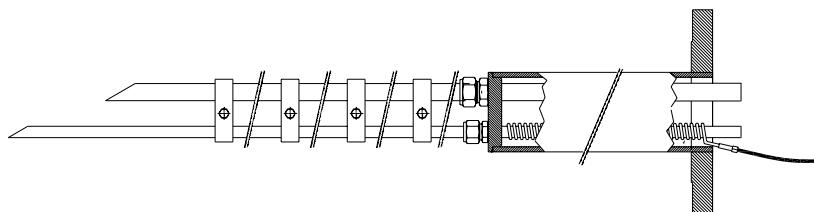

Figure 2–7. Stinger Heater Installation
3. Bolt mantel in place with four (4) 5/8-inch-11 x 1 1/2-inch bolts and split lock washers.
9. Using a clockwise twisting motion, screw stinger heater onto tube until bottoming out in mantel (Figure 2–7).
Every 18-inches, add a stinger clamp (Figure 2–7).
Use the following procedure to install the slurry cup (Figure 2–8).